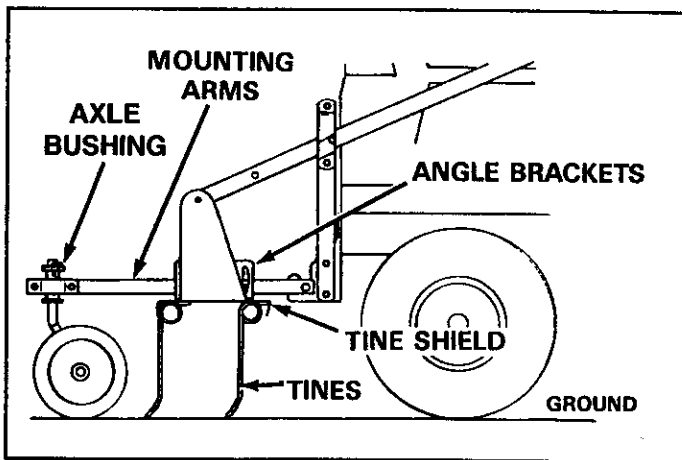

FIGURE 18
- Adjust tine shield until spring tines come in contact with level surface, keeping front and back tines at same height. Tighten mounting arm carriage bolts on top of dethatcher shield to lock adjustment. See figure 18.
- If you need more adjustment, try moving the axle bushing up or down between the mounting arms. Be sure to retighten the bolts securing the bushing. See figure 18.